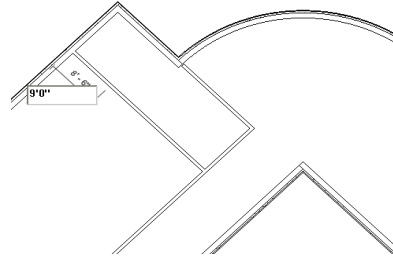

Figure 3-73 Specifying the distance of the fourth interior wall
8. Create the next wall by moving the cursor away from the specified point. Next, move it downward toward the right. When the temporary dimension appears, enter the value **9'(2743 mm)** and press ENTER to start the wall, as shown in Figure 3-73.